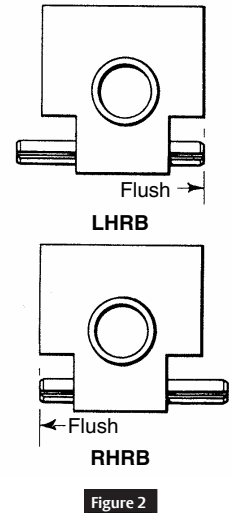

Figure 2
2. Slide bottom tube into bottom of stile. Secure with screws indicated in chart. (Figure 2 on page 2)
3. Retract top latch by holding case and pushing up on rod. Insert top latch rod into top of stile and into bottom tube. Secure with screws indicated in chart. (Figure 2 on page 2)